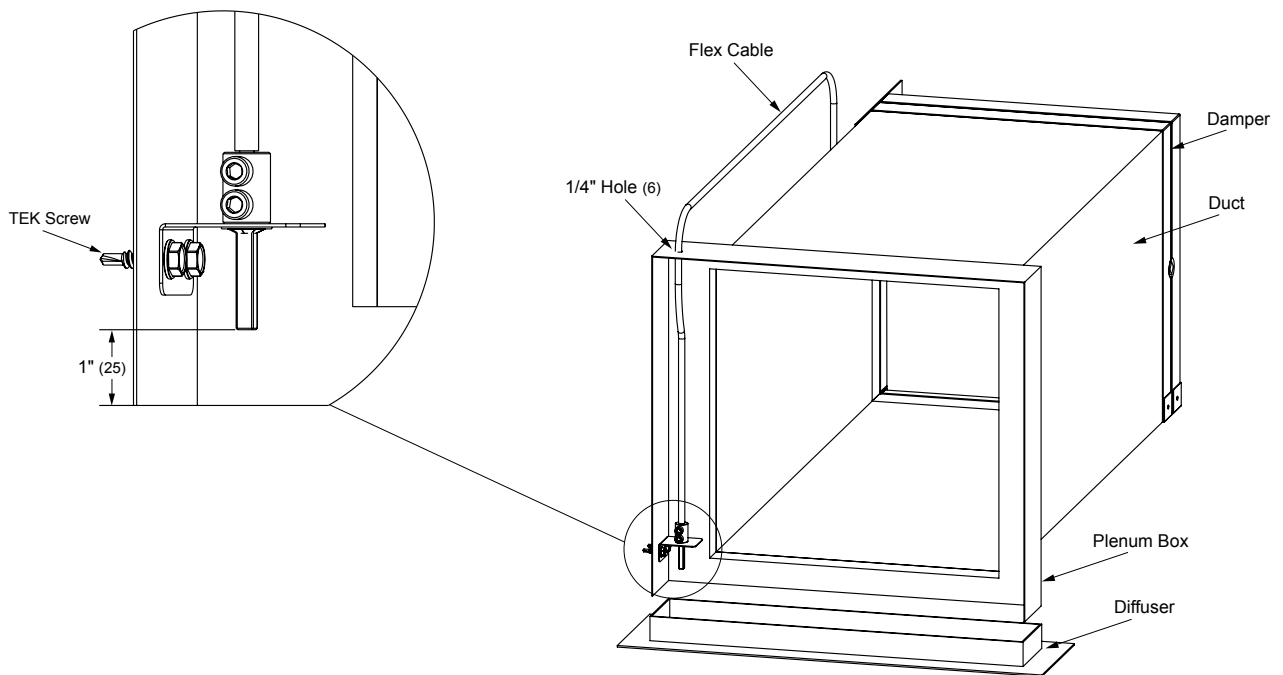

Figure 3 Final Installation
3. Drill a 1/4" (6) hole into the plenum and run the flexible cable through. Install the flexible cable into the coupler and secure the bracket on the slot plenum box wall using provided #10 TEK screws 1" (25) from the edge inside the plenum as seen in Figure 3 detail.
4. Adjust the damper as needed using a 1/2" (5) socket or the optional RCS adjustment tool available as an accessory with the damper.